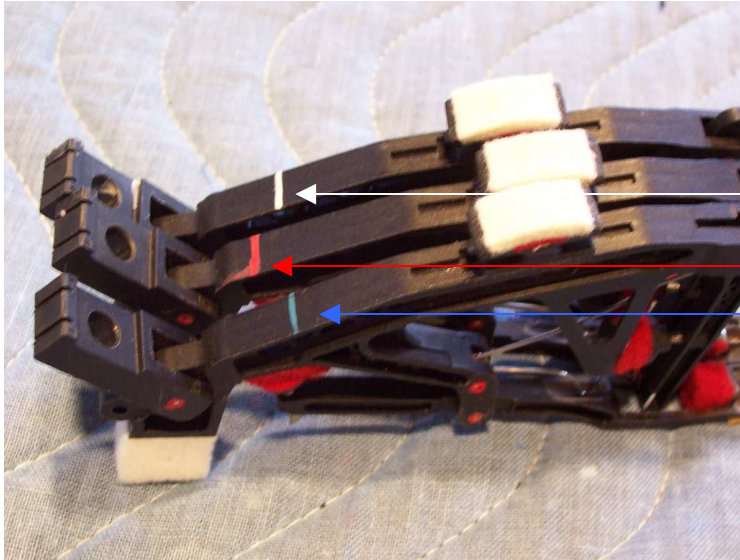

Fig. 15
- 7. Install the new WNG repetitions on the rails. In a WNG Composite set of repetitions there are three types of springs in the Bass, Tenor and Treble. (See Fig. 15)
- i. Repetitions are color coded on the bottom for the spring size. (See Fig. 15)
- 1. Red for bass (30)
- 2. White for tenor (30)
- 3. Blue for treble (30)